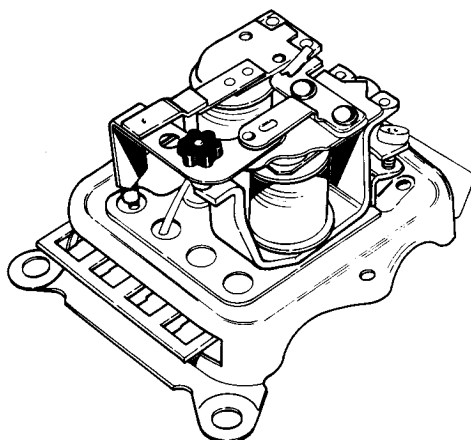

Fig. 1
I. DELCO-REMY SYSTEM (DELCOTRON) WITH EXTERNAL REGULATOR. (See Fig. 1)